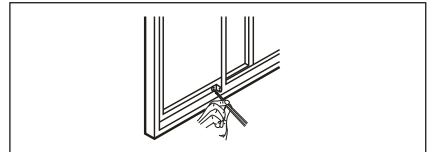

Fig. 22
7. To secure the sliding sash in place, attach right angle sash lock with 1/2" (12.7mm) screw as shown (Fig.22).